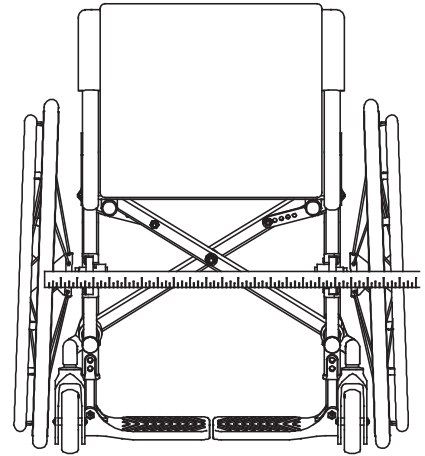

Figure 61
8. Measure the distance between the left and right tires at the rear reference marks made in step 6 ("Measurement B"). See Figure 61.